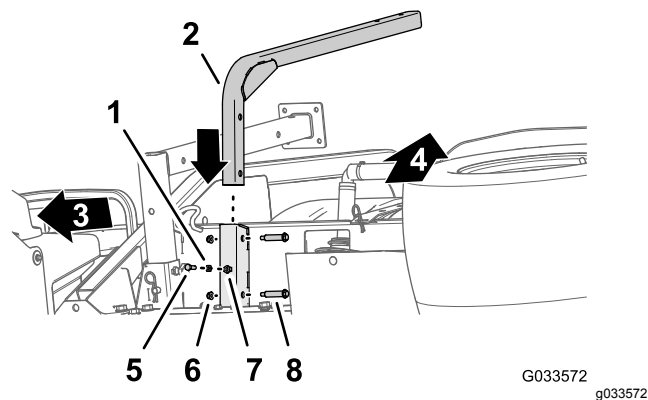

Figure 46
1. Align the support tube for the freshwater tank with the tank-support channel (Figure 46).
2. Align the holes in the support tube with the holes in the channel (Figure 46).
3. Secure the tube to the channel (Figure 46) with the 2 shoulder bolts (1/2 x 1-15/16 inches) and 2 flange locknuts (5/16 inch).
5. Thread the jam nut (5/16 inch) into the bolt (5/16 x 1 inch) as shown in Figure 46.
6. Thread the bolt (5/16 x 1 inch) and jam nut into the weld nut at the bottom of the tank support channel and tighten the bolt and jam nut by hand (Figure 46).